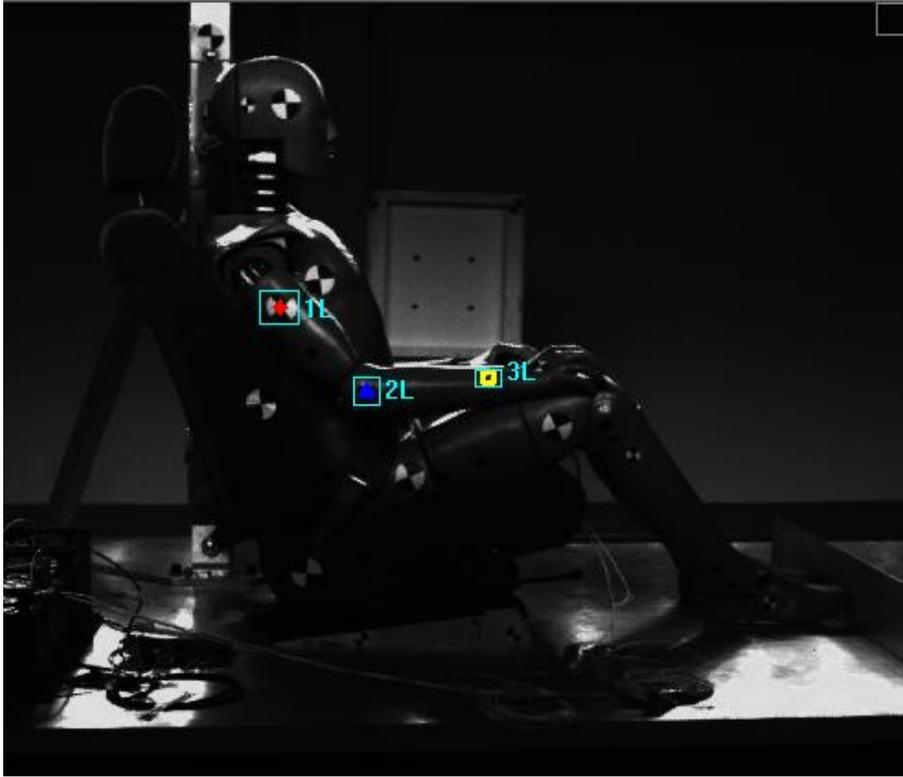

Figure 10. Arm features defined
7. Click **Define Region**. Position the reticle and draw a box around the target on the upper arm. Click **Set Region** to set the upper arm target as Feature 1. Click the **Add** button to add the elbow target as Feature 2. Define and set the region. Next, add the wrist target as Feature 3, defining and setting the region. Figure 10 shows the three features.